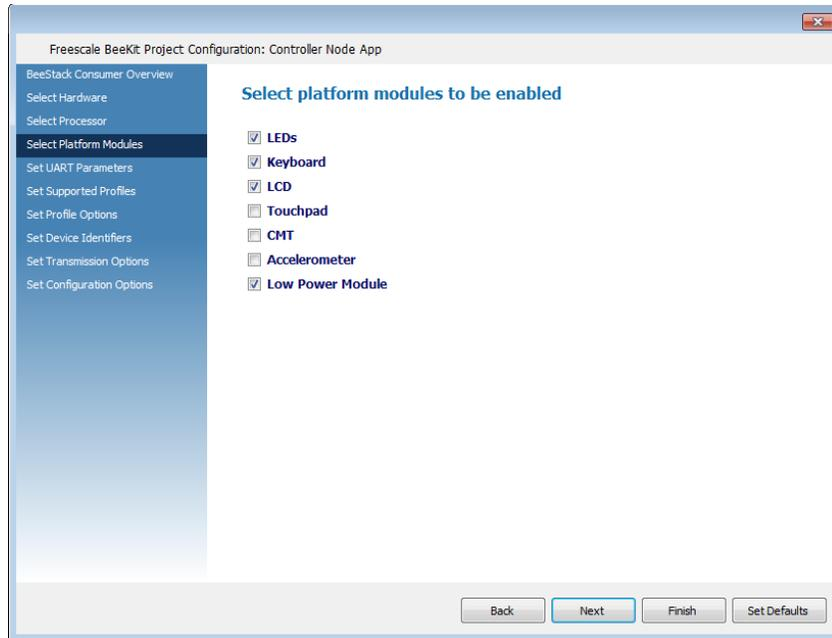

Figure 2-6. Platform Modules Page
2. Select the MC1323x-RCM radio button for hardware target and MC13233C for processor target; click on the Next button. The Platform Modules page appears as shown in Figure 2-6.